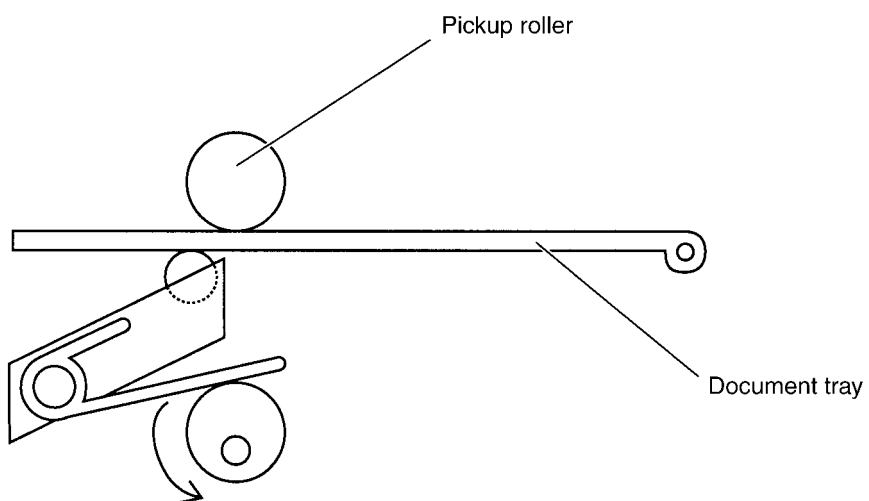

Fig. 3-22
- e. When the document tray cam rotates in the direction of arrow, it pushes up spring, and enables to paper feeding by attaching document tray to pickup roller as shown in Fig. 3-22.